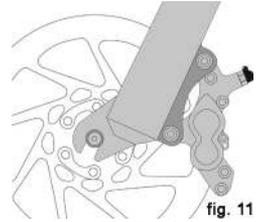
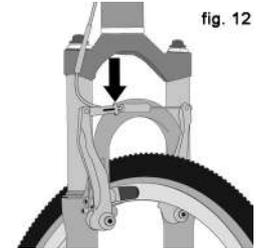

fig. 11
fig. 12
- (1) If your bike has rim brakes, disengage the brake's quick-release mechanism to increase the clearance between the tire and the brake pads (See Section 4.C fig. 11 through 15).
- (2) If your bike has rim brakes, disengage the brake's quick-release mechanism to increase the clearance between the wheel rim and the brake pads (see Section 4.C, figs. 11 through 15).
- (3) On a derailleur gear system, pull the derailleur body back with your right hand.
- (1) If your bike has rim brakes, disengage the brake's quick-release mechanism to open the clearance between the tire and the brake pads (see Section 4.C, figs. 11 through 15).
- (2) Using a correct size wrench, loosen the two axle nuts.
- (3) If your front fork has a clip-on type secondary retention device, disengage it and go to the next step. If your front fork has an integral secondary retention device, loosen the axle nuts enough to allow wheel removal; then go to the next step.
- (4) Raise the front wheel a few inches off the ground and tap the top of the wheel with the palm of your hand to knock the wheel out of the fork ends.
- (2) Shift the rear derailleur to high gear (the smallest rear sprocket) and pull the derailleur body back with your right hand.
- (3) Using the correct size wrench, loosen the two axle nuts.
- (4) Lift the rear wheel off the ground a few inches and, with the derailleur still pulled back, push the wheel forward and down until it comes out of the rear dropouts.
3. SOME BICYCLE BRAKES, SUCH AS DISC BRAKES (FIG. 11) AND LINEAR-PULL BRAKES (FIG.12), ARE EXTREMELY POWERFUL. TAKE EXTRA CARE IN BECOMING FAMILIAR WITH THESE BRAKES AND EXERCISE PARTICULAR CARE WHEN USING THEM.
Most brakes have some form of quick-release mechanism to allow the brake pads to clear the tire when a wheel is removed or reinstalled. When the brake quick release is in the open position, the brakes are inoperative. Ask your dealer to make sure that you understand the way the brake quick release works on your bike (see figs. 11 through 15) and check each time to make sure both brakes work correctly before you get on the bike.